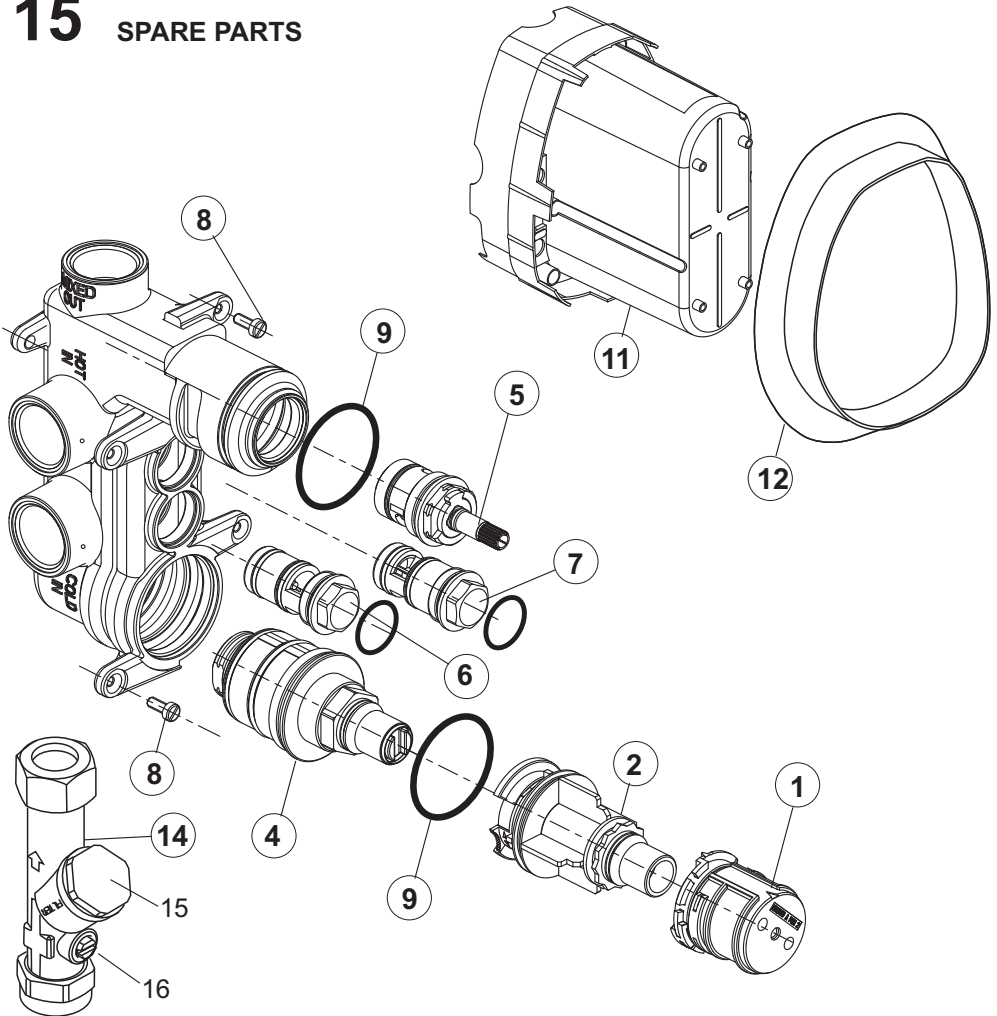

Figure 15 Exploded view of valve and associated components
To do this close the isolating valve (16) by turning through 90deg (figure 15 shows the valve in the closed position). Unscrew the strainer cover (15), remove the strainer gauze and clean under running water before replacing.